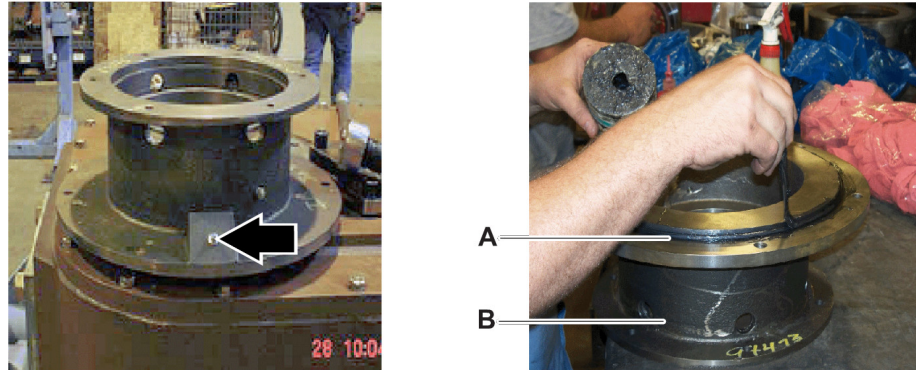

Figure 2
3. Apply the shoulder area of the swivel housing (Figure 2, item A) with a layer of Ronex-HD grease (item A). Lubricate the O-ring heavily and position over mounting shoulder of the swivel housing. Fill the upper spindle bearing cavity with Ronex-HD grease. Make sure to get the grease in between and around the bearing rollers.